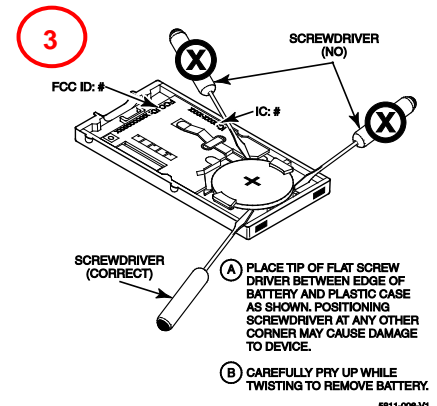

Figure 3: Battery Removal
2. Remove the old battery cell using a small flat screwdriver into the latch and gently twisting it until the cover becomes removable (see figure 3).
NOTE: The FCC ID and IC Certification number is on the back of the plastic case, or see the diagram in the “*Figure 3: Battery Removal*” section for the alternate location.